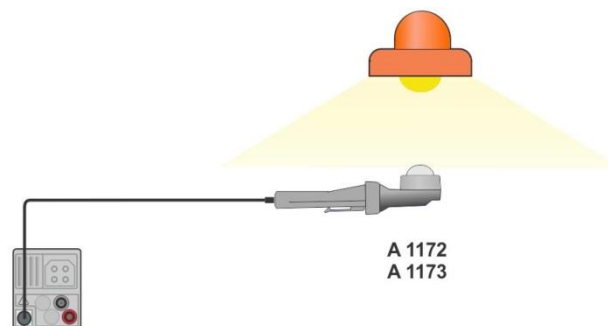

Figure 7.86: LUXmeter probe positioning
- › Take the position of LUXmeter probe, see **Figure 7.86**.